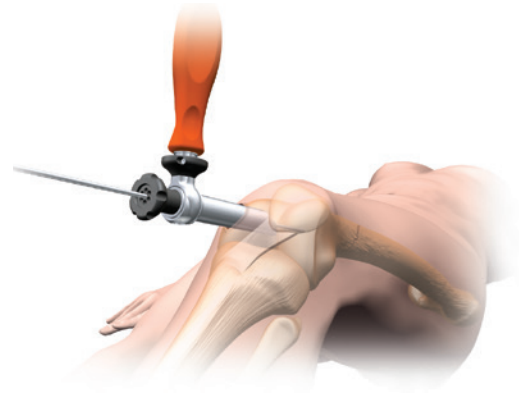

Figure 6
2. Insert the Guide Pin into the distal femoral metaphysis to a depth of 6–8cm (Figure 6).